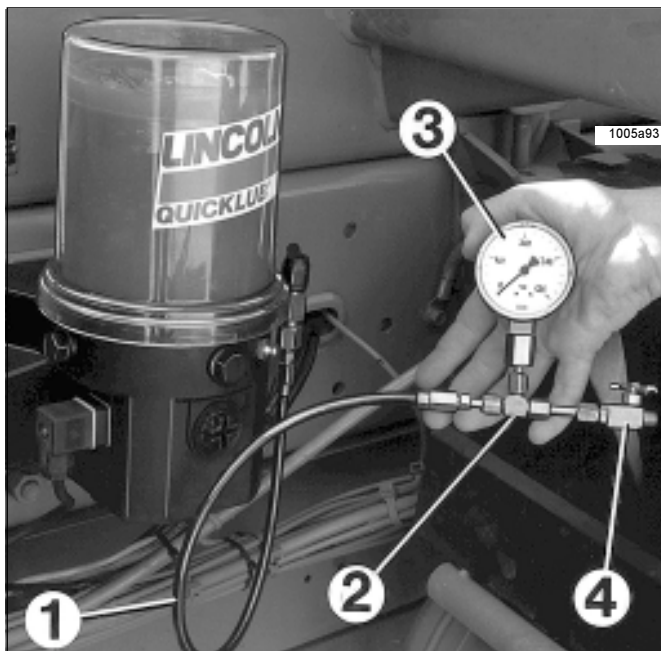

Fig. 31 - To check the safety valve
- * Connect the pressure gauge (0-600 bar; 0-8708 psi) to the pressure relief valve (Fig. 31).